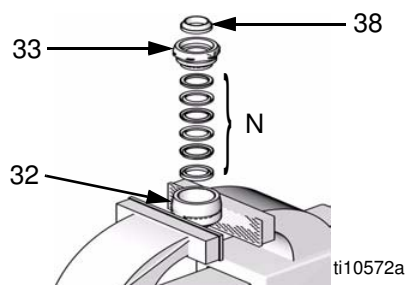

FIG. 18
1. Lubricate the intake valve packings (N) and install them in valve (32). See FIG. 18. See Packing Kits sections for the correct intake valve packing configuration.
2. With beveled side facing up, press intake valve seal (38) in to recess of intake valve packing nut (33) until it snaps into place. The nose of the seal should be flush with or slightly recessed into the face of the packing nut. See FIG. 18.
3. Place flats of valve body (32) in a vise. Screw packing nut (33) into valve body handtight. Set intake housing assembly aside.